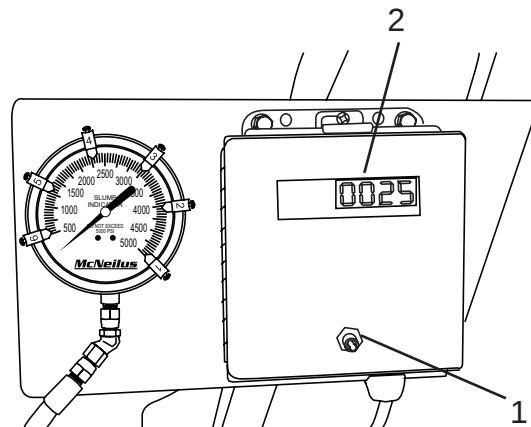

Figure 102
1. Before discharging, press the reset switch (Figure 102, Item 1) to reset the counter display (Figure 102, Item 2).